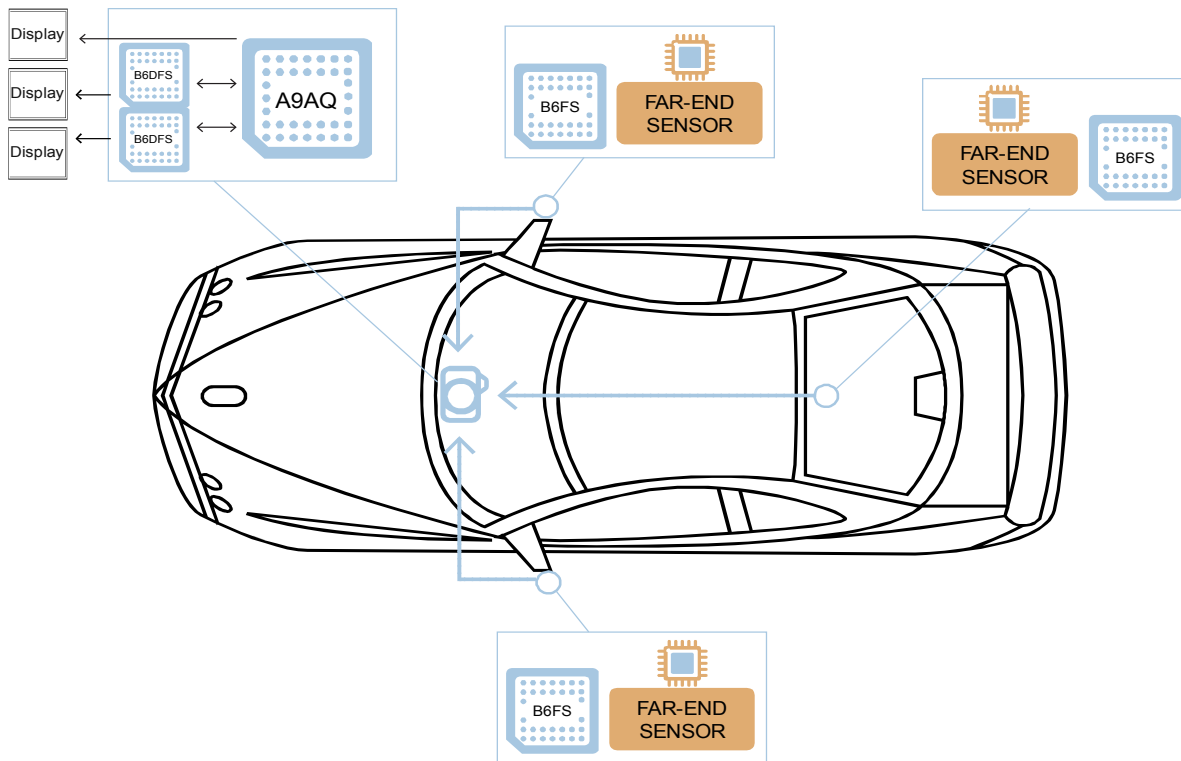
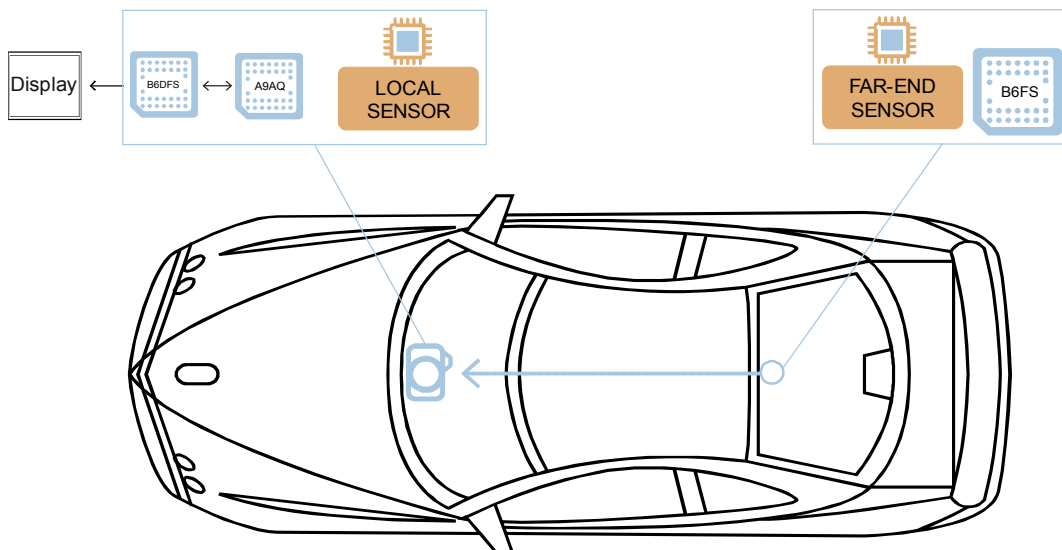

Figure 1-2. Electronic Mirror: Automotive Video Application with an Ambarella A9AQ SoC, Three B6FS Chips, and two B6DFS Chips.
Figure 1-3. Two-Channel Recorder: Automotive Video Application with One B6DFS Chip, One A9AQ Chip, and One B6FS Chip.
3. **B6DFS:** (Far-End) The B6DFS chip transfers the SERDES data received from A9AQ in MIPI-DSI or Open LDI format to connect to remote external displays. Refer to Figure 1-3 below.
below represent an electronic mirror system (Figure 1-2) and a two-channel recorder (Figure 1-3).